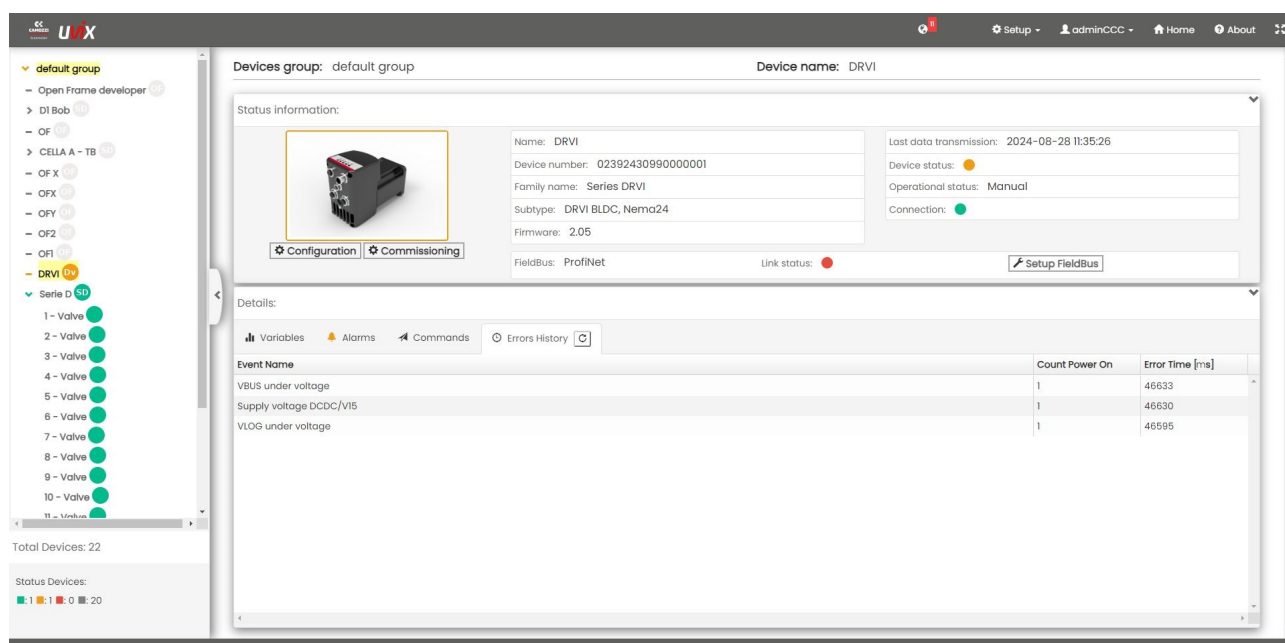

Figure 6.39: Finestra Errors History
- Errors History: Display a list of the latest errors (Figure 6.39).